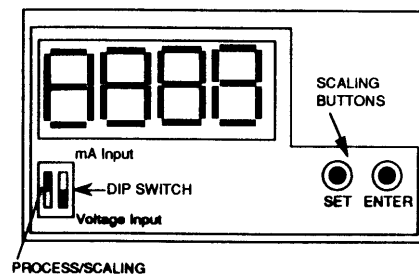

fig. 26 -- MCD 8000 Adjustment Switches;
**Note:** The DIP switch may either be a rocker type (press down on appropriate end) or a slider type (slide toward appropriate end). The drawing in fig. 26 details the adjustment activities.